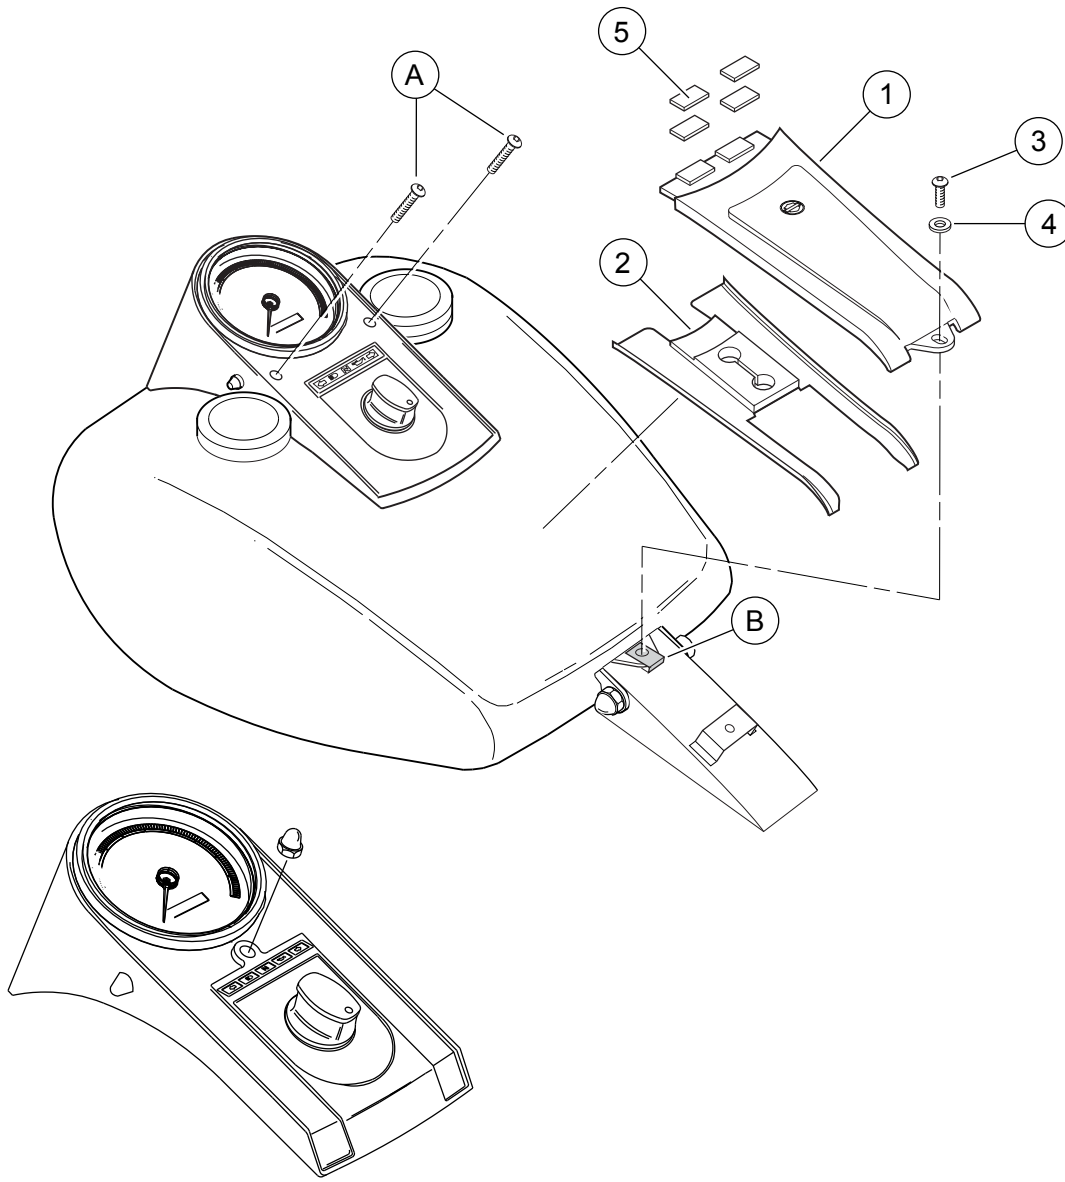

Figure 1. Service Parts: Dash Panel Extension Kit
See Figure 1 and Table 1.
2. See Figure 1. Loosen the two socket head screws on the instrument panel console. Raise the console enough to access the two pushnuts holding the upper end of the leather insert. Remove and discard the pushnuts using pliers or a blade-type screwdriver.
3. Remove and discard the phillips head screw (3) and washer (4) securing the lower portion of the leather insert to the fuel tank. Remove the leather insert and discard it.
4. Obtain the dash panel extension (1) and the dash panel extension trim (2) from kit. Place the dash panel extension on the dash panel extension trim making sure the panel is centered and fits cleanly into the lips on both sides of the trim.